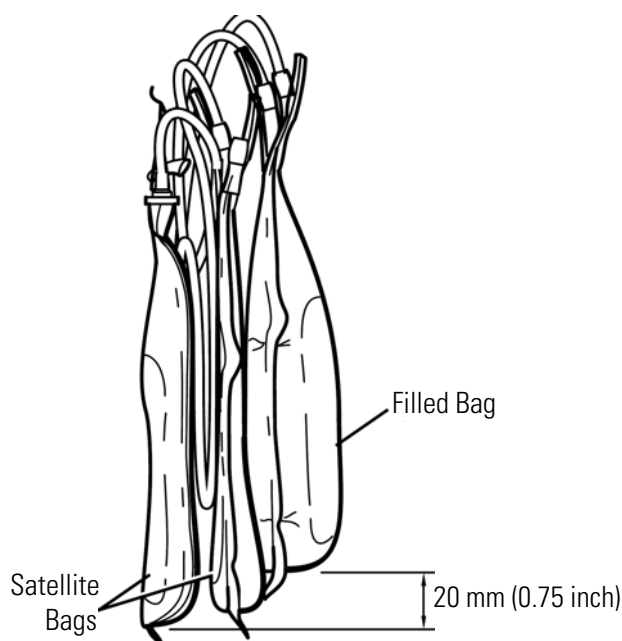

Figure 3-5. Adjusting the Relative Bag Height
3. Adjust the height of the satellite bags, positioning them so that their bottoms are positioned approximately 20 mm (3/4 inch) lower than the bottom of the filled bag (see Figure 3-5).